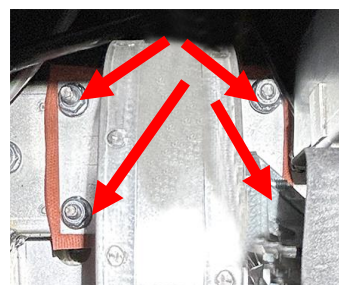

Figure 14
16. Use a 7/16" driver with extension to remove the four (4) nuts attaching the blower (see Figure 14).